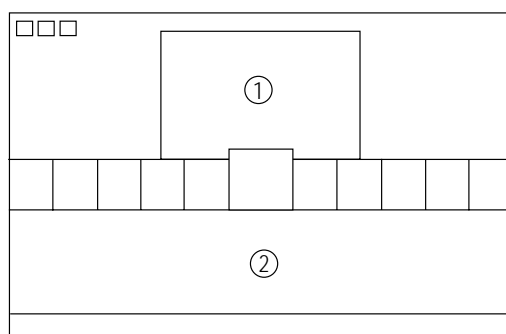

Fig. 4-4
1. Set SCT to 50 fL in the Factory Service Mode using CA100. (See Fig. 4-4 ①)
1. Set SBT to 1.2 fL in the Factory Service Mode using CA100. (See Fig. 4-4 ②)